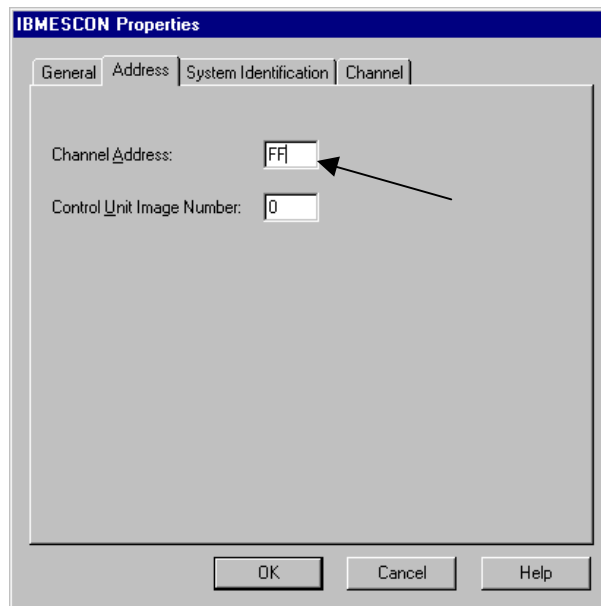

Figure 16-16. Channel (PU) Address]
3. On the connection properties verify the Channel Address (PU Address) matches that defined in the ESCON configuration and mainframe IOCP (Figure 16-16).